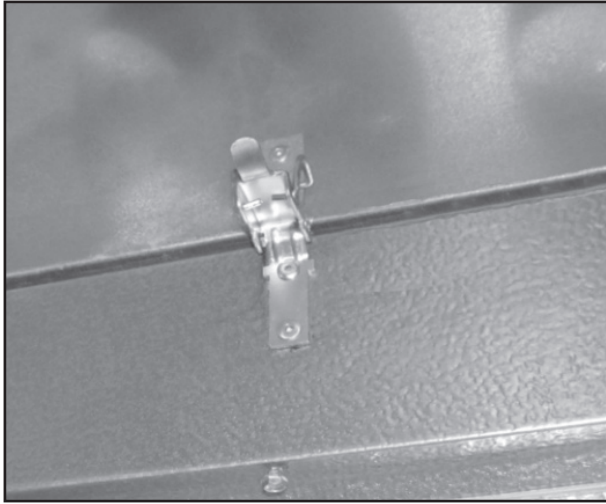

Figure 4
4. Secure interior latches (Figures 4 and 5)